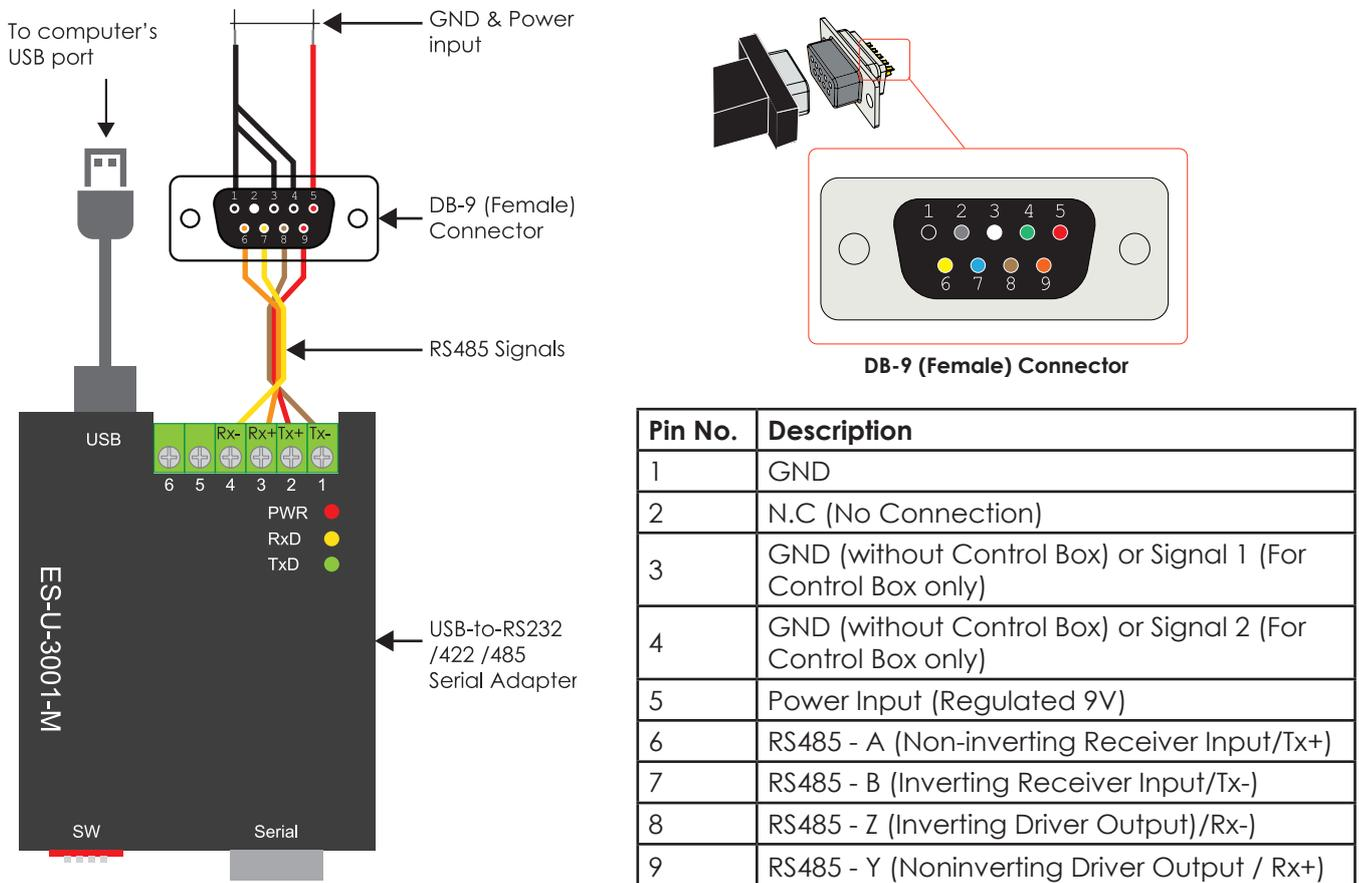

Figure 9. Constructed custom cable and pinout of the DB9 (Female) connector
1. Prepare the custom cable. The constructed custom cable and the pinout of the DB9 (Female) connector is shown in Figure 9.